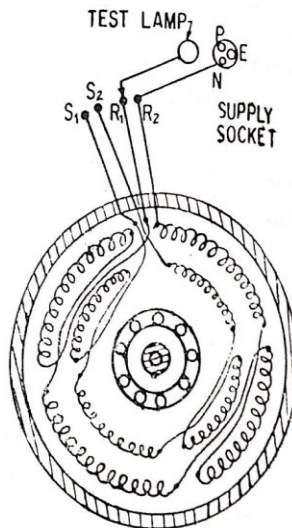

Fig. 6.82. Continuity and Short Circuit Test on Running Winding.
1. **Continuity and Short Circuit Test on Running winding.** By connecting testing leads of R1 and R2 as shown in figure 6.82, if lamp glows dimly, it is continuity. If lamp does not give light, it is an open circuit. If lamp gives full light, it is a short circuit.